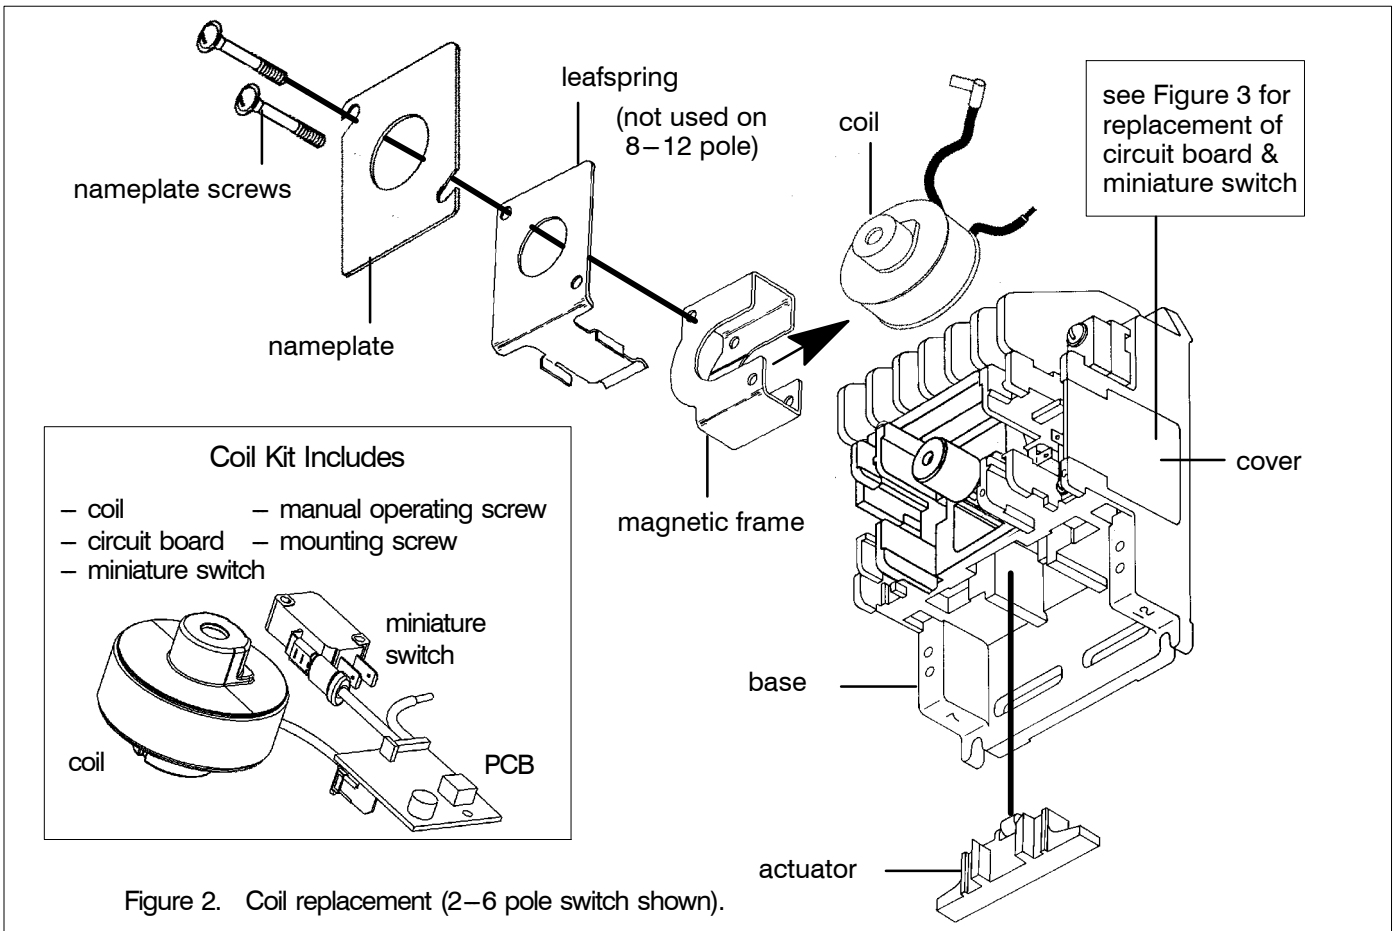

Figure 2. Coil replacement (2-6 pole switch shown).
The coil assembly is mounted in the center of the switch base. The coil control circuit board and miniature switch are on the right side behind a cover. See Figures 2 and 3.
4. Remove the coil. See Figure 2. Use a screwdriver (counterclockwise) to remove the two screws in the magnet frame. Then pull the coil assembly, leaf spring\*, and nameplate straight out. Slide the coil out of the right side of the magnetic frame. On 2 — 6 pole switches the actuator will be loose and may drop out of the lower switch cavity.
1. Install the new coil into the magnetic frame. Figure 2. Position the magnetic frame with the seam facing the base. Position the new coil with small hole outward and slide it into the right side of the magnetic frame.
2. Install the coil assembly. See Figure 2. Place the coil assembly onto base (cam/core fits into the coil). Be sure the magnetic frame is flat against the base. On 2 — 6 pole switches reinstall and hold the lower actuator while reinstalling the leafspring and onto the magnetic frame. Then reinsert the two screws through the leaf spring (if present) and magnet frame, and start them clockwise but do not tighten them yet. Put the nameplate against the leaf spring (if present) or magnetic frame and rotate it in place, then tighten the screws evenly to 10 in-lbs.